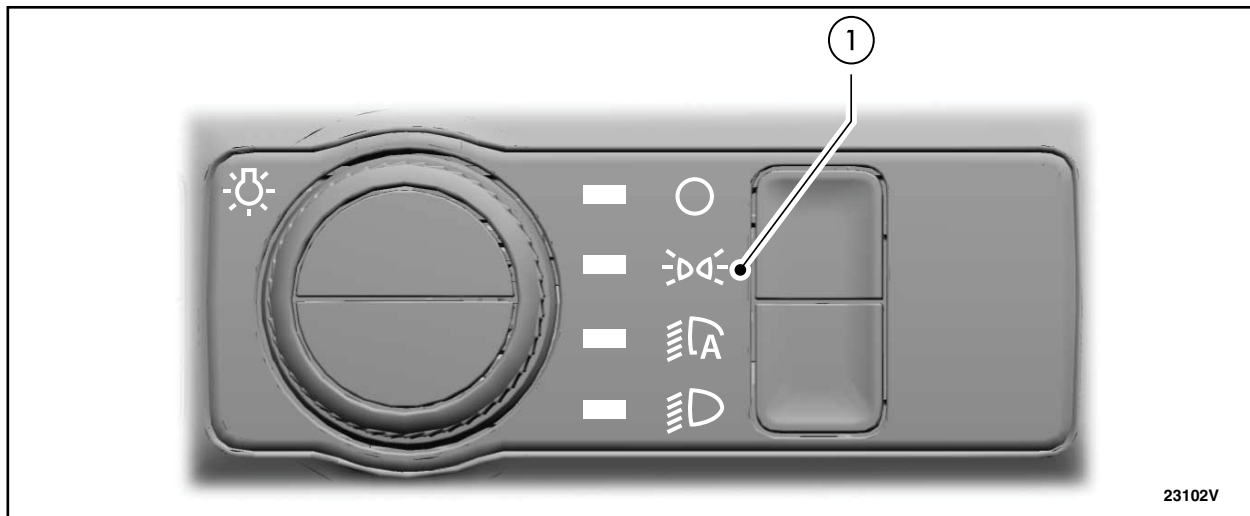

FIGURE 1
1. With the vehicle on, turn the light knob to the "parking light" mode. See Figure 1.